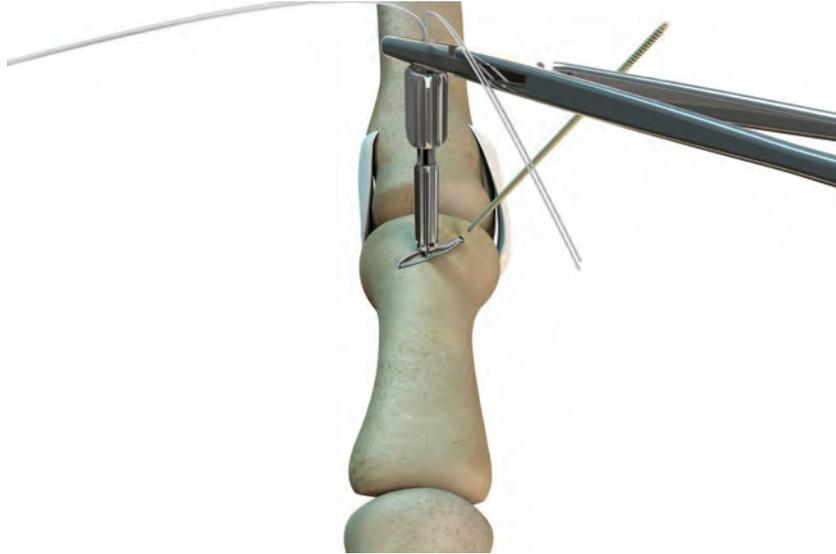

Figure 24: Insert the PEEK interference wire into the bone tunnel
6. Use a K-wire driver to insert one end of the 1.6mm threaded PEEK interference wire into one of the bone tunnels such that all the threads are in the tunnel (Figure 24).